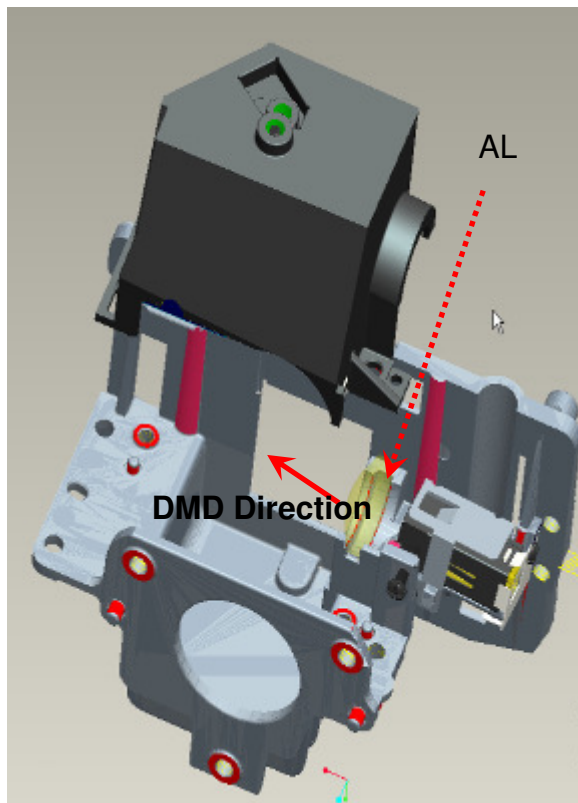

Fig. 4-1
4.1 Placed “AL” on the “HSG DMD”. The “raised surface” of “AL” shall toward “DMD direction” (Fig. 4-1).